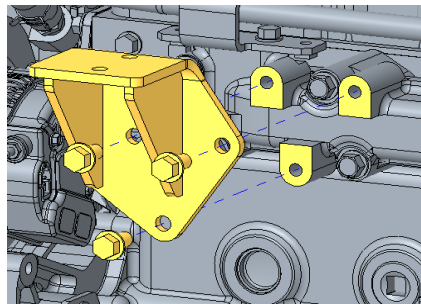

Figure 4
5. Install middle DOC mount bracket (3) on exhaust manifold as shown in the Figure 4 using M10X1.5 - 20mm bolts (10).